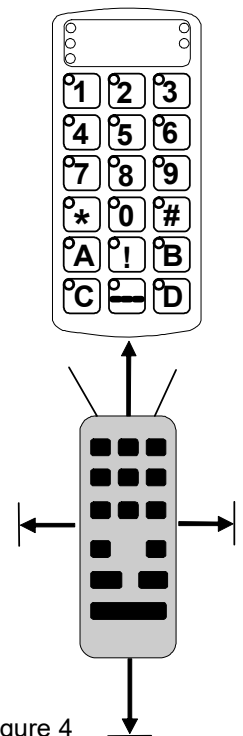

Figure 4
2. Place the two transmitters on a table with the original transmitter directed towards the rear of Control Prog (figure 4).
4. Press **P** and **1** at the same time. The indicator light on key 1 and chosen level now flashes.